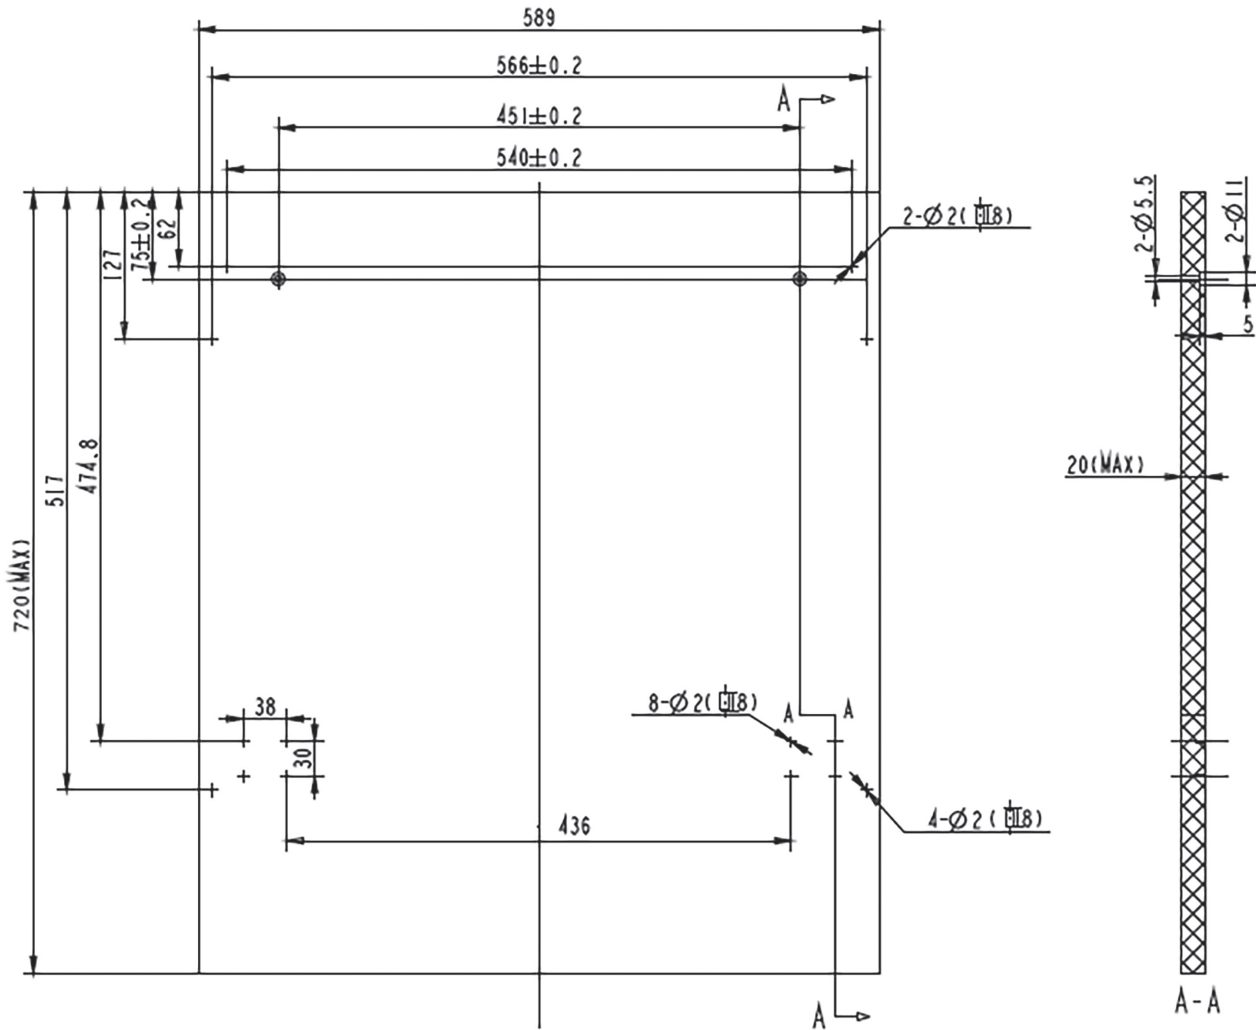

Figure 3
1. The aesthetic wooden panel could be processed according to the Figure 3.